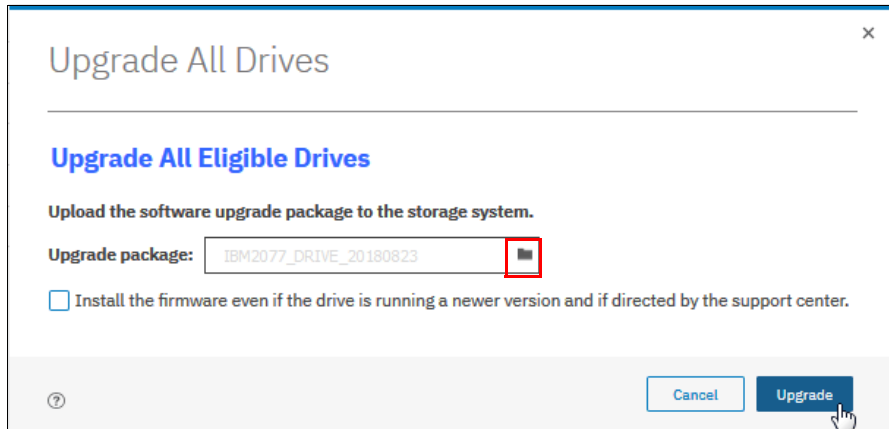

Figure 12-65 Upload the software upgrade package for multiple drives
- After you start the drive upgrade process, the window that is shown in Figure 12-65 is displayed. Select the drive upgrade package, which was downloaded from the IBM Support site, by clicking the folder icon, and click **Upgrade**. You can also override newer versions of firmware when you select the option **Install the firmware even if the drive is running a newer version and if directed by the support center**.